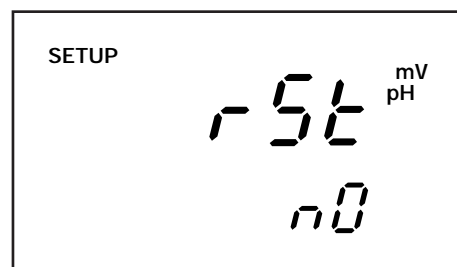

Figure 60
3. Press the **ENTER** key to enter program **P4.0**. The secondary display will read **NO**. —See Figure 60.
4. Press the **▲** and **▼** keys to select **NO** or **YES**. Selecting **YES** erases all calibration values for all modes (pH, mV and ion) and all memory values. —See Figures 60 and 61.